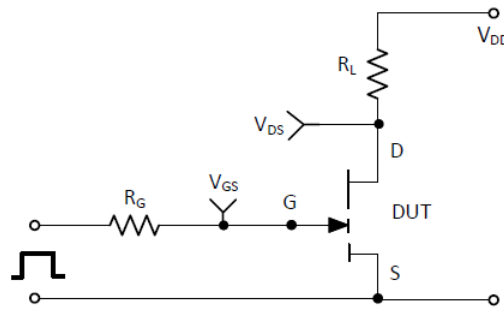
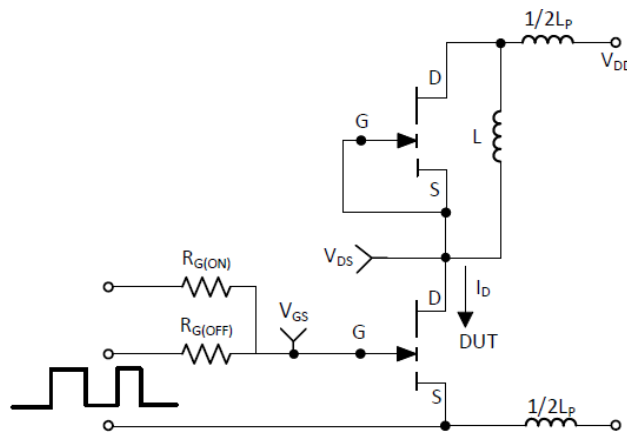

Figure 16: switching time test circuit
Figure 18: Switching Loss Test Circuit
(5) See Figures 16 and 17 for timing test circuit diagram and definition waveforms
(6) L_P = parasitic inductance
(7) See Figure 18 for switching loss test circuit